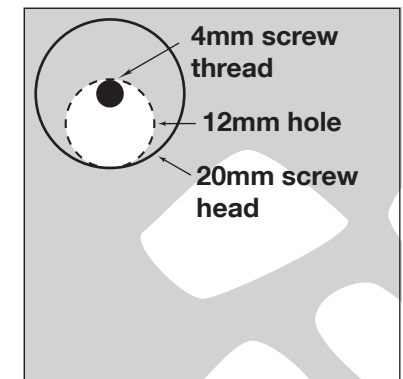

Fig 4
4. Insert and drive in **each screw at the top of the 12mm hole** as per Fig. 4, but do not over-tighten.